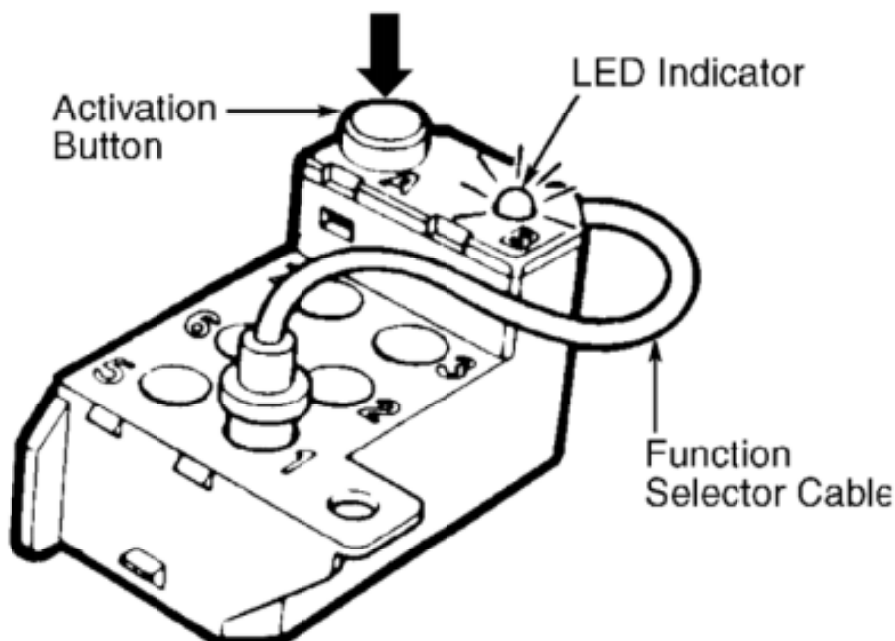

Fig.5
Faults are recorded in TCM memory in the form of Diagnostic Trouble Codes (DTC's). Codes can be displayed using LED on Volvo diagnostic unit or by using Volvo Diagnostic Key Scan Tool. Diagnostic unit is located in engine compartment at left strut tower. Diagnostic unit is equipped with an LED indicator, activation button and function select cable. See Fig. 5.
1) System is capable of self-diagnostic functions through the use of diagnostic unit in engine compartment, or manufacturer's scan tool. Access to diagnostic system is provided by socket No. 1 on diagnostic unit with ignition on. See Fig. 5 System has 6 test modes. Test mode No. 1 is used to display and clear codes. Test mode No. 2 is used to verify operation of system components. Test mode No. 3 operates components in a certain order.